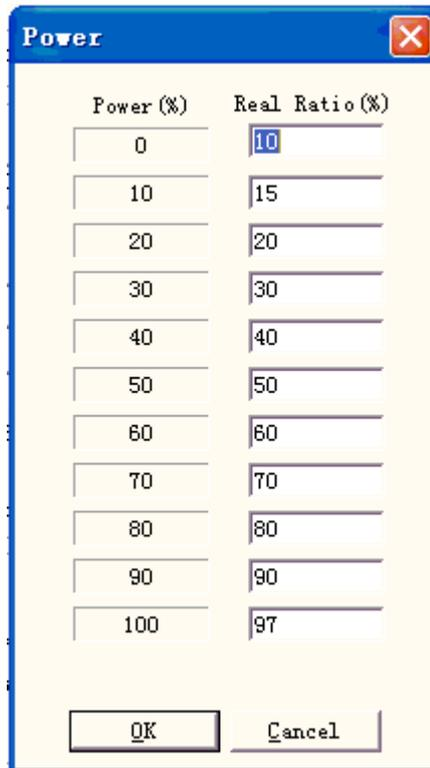

Figure 10-26 Power Map Dialog Box
**Power Mapping:** This is power emendation function, used to set the power percentages of the customized and the corresponding one, as Figure 10-26 shows. If the customized power percentage is not in the displays of the Power dialog box, the system will pick the linearity margin values.